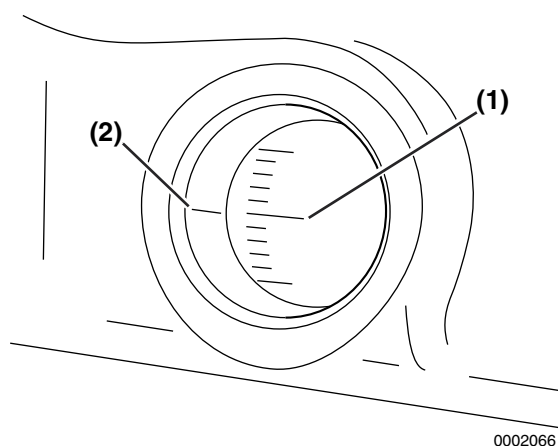

Figure 7-42
2. Rotate the flywheel until the target timing mark (**Figure 7-42, (1)**) and the timing reference mark (**Figure 7-42, (2)**) on the flywheel housing or back plate are aligned.